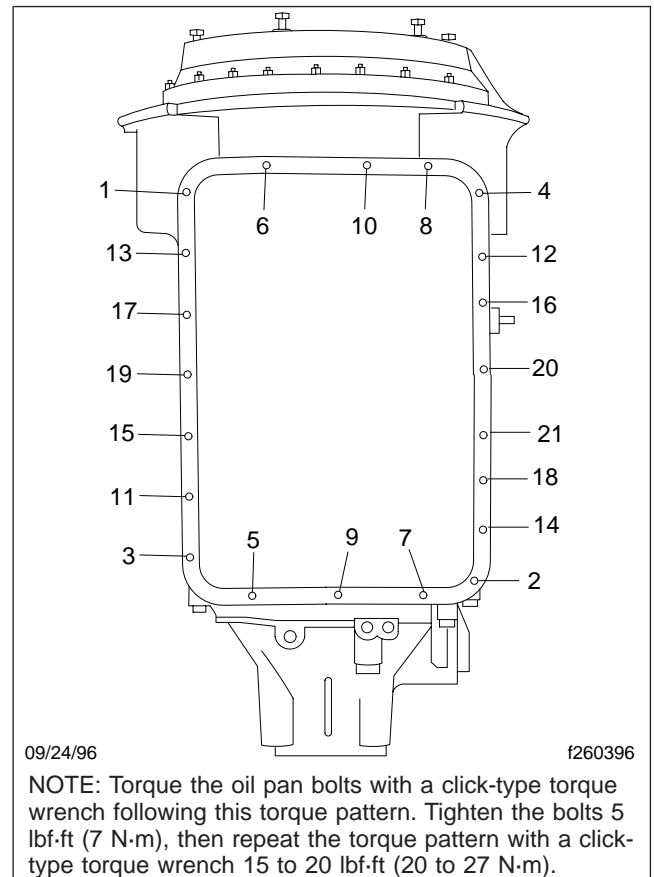

Fig. 7, Allison MT Series Transmission, Oil Pan Torque Pattern
14. Using a click-type torque wrench, tighten each capscrew 5 lbf-ft (7 N·m). See Fig. 7 for the pattern needed to distribute the torque evenly. When all the capscrews are tightened to the first stage, repeat this procedure. This time, torque all the capscrews 15 to 20 lbf-ft (20 to 27 N·m).